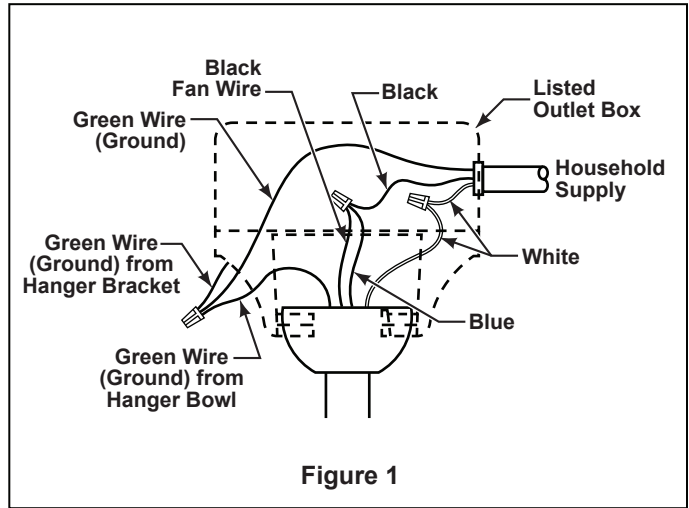

Figure 1
2. Securely connect the white fan motor wire to the white supply (neutral) wire using wire connector supplied. Securely connect the black fan motor wire and blue wire to the black supply wire using wire connector supplied (Figure 1). After connections have been made, turn leads upward and carefully push leads into the outlet box, with the white and green leads on one side of the outlet box and the black and blue leads on the other side of the outlet box.